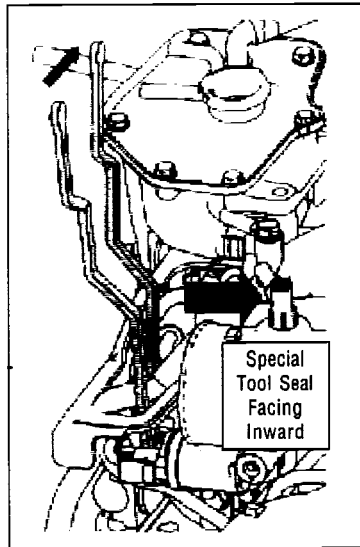

Fig.9: Insertion of Special Tool through the upper opening for Front Bolt (RH)
- When tightening the front bolt, the Special Tool Seal should be facing inward (as shown in Fig.9).